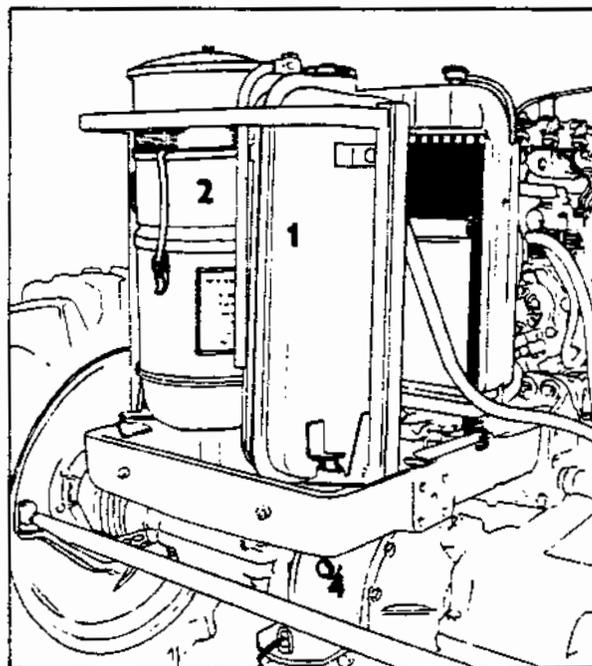

Fig. 2
1. Tilt the hood off, dismantle the air cleaner (Fig. 2/2) and the steering booster tank (Fig. 2/1 — with tractors fitted with steering booster).
Tilt the hood off, disconnect the lead of the LH headlamp and steering booster tank (Fig. 2/1) — with tractors fitted with steering booster).